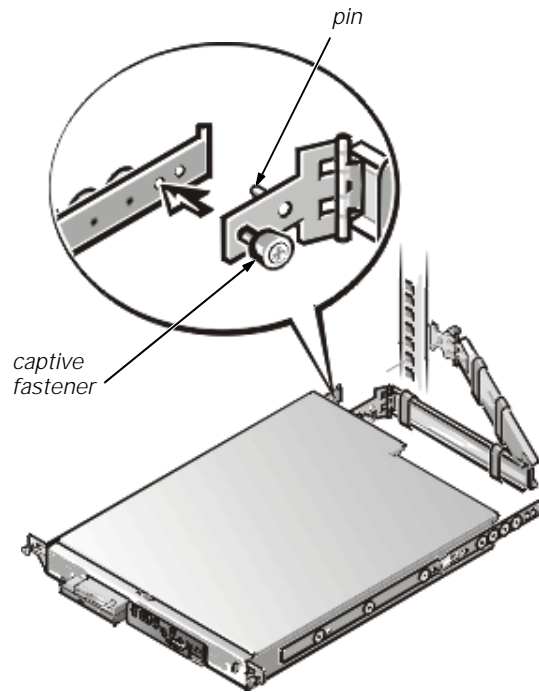

Figure 19. Installing the Cable-Management Arm
1. Facing the back of the rack cabinet, locate the threaded hole on the back of the slide assembly and secure the end of the cable-management arm (the end having a bracket and captive thumbscrew) to the right side vertical rail (see Figure 19).
3. Secure the cable-management arm to the inner rail with the captive thumbscrew (see Figure 19).